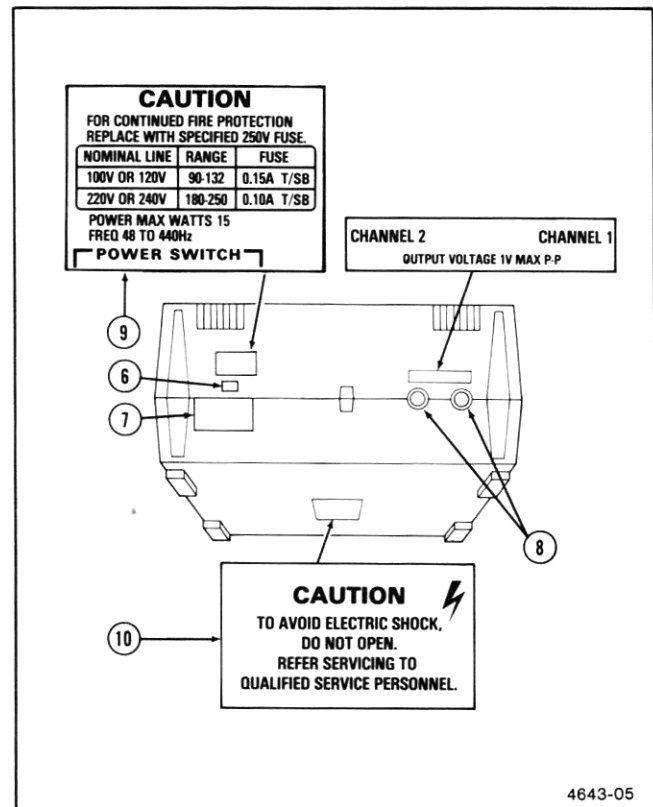

Figure 2-6. Rear- and bottom-panel controls, connectors, and labels.
Refer to Figure 2-6 for the location of items 6 through 9.
- ⑥ **POWER SWITCH** controls application of ac power to the Isolator. An indicator light on the front panel is actuated when the power switch is in its "on" position (1).
- ⑦ **POWER CONNECTOR/VOLTAGE SELECTOR** allows the connection of the ac power cord to the Isolator. The connector is an IEC connector, and includes the Voltage Selector/Indicator for alternative line voltage, (fully discussed in the "Preparation For Use" section of this manual.)
- ⑧ **OUTPUT VOLTAGE** connectors make available the output of Isolator Channels 1 and 2.
- ⑨ **CAUTION** label provides fuse replacement and line voltage information.